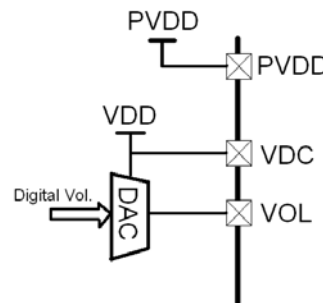

Fig.18b. DAC volume control
(2) Using DAC (digital-to-analog converter), as shown in Fig.18b. The DC control signal is generated by a DAC, therefore, the MT6823's VDC must share the same power with the DAC.
(3) PWM control. The DC volume control signal is RC filtered from a PWM signal, which is generated from a MCU. The gain is decided by the PWM signal duty cycle. As mentioned above, the VDC must share the same power with MCU.